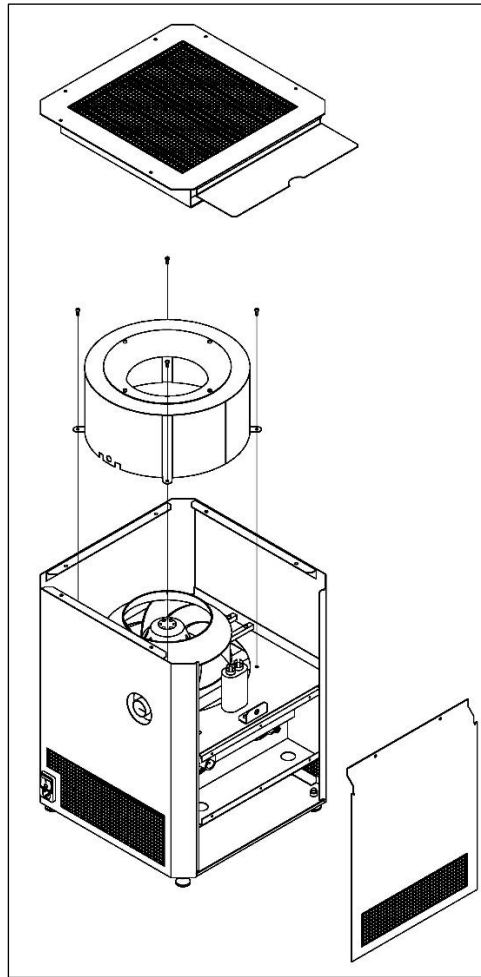

Figure 10
- 3.) Remove (4) screws holding fan shroud in place using an Allen wrench. See Figure 10.
- 11.) Reconnect fan shroud to frame using (4) screws. Tighten with an Allen wrench. See Figure 10.